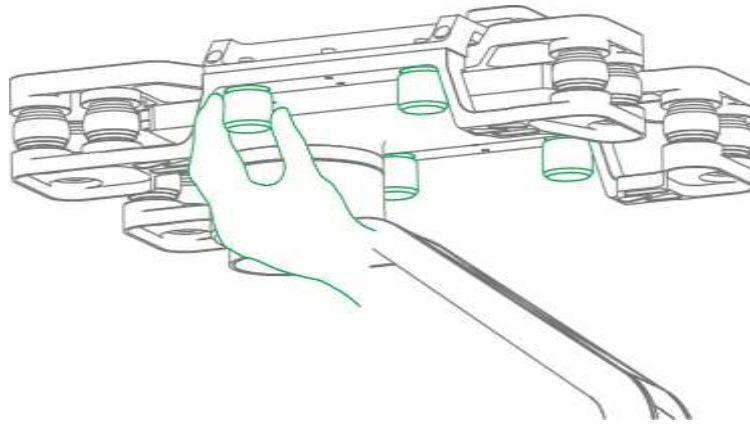

Figure 3-12
- Step 1 Loosen four mounting screws, as shown in Figure 3-12.